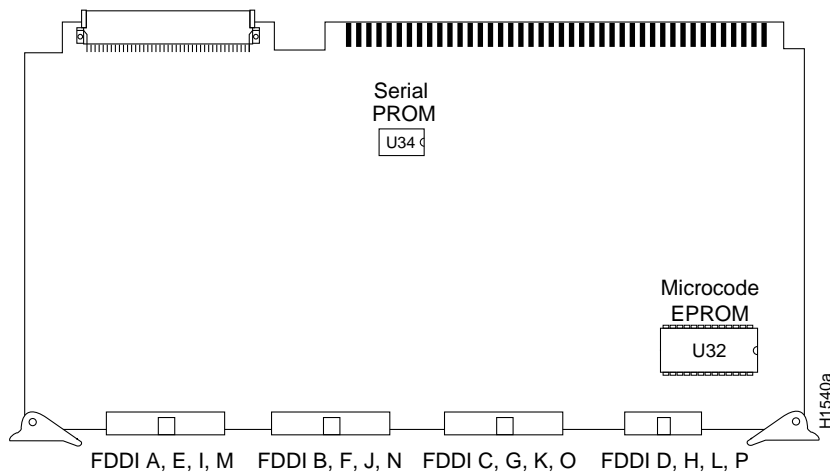

Figure 5-21 CSC-C2FCIT FDDI Interface Card—Component-Side View
- CSC-C2FCIT FDDI interface card, Figure 5-21